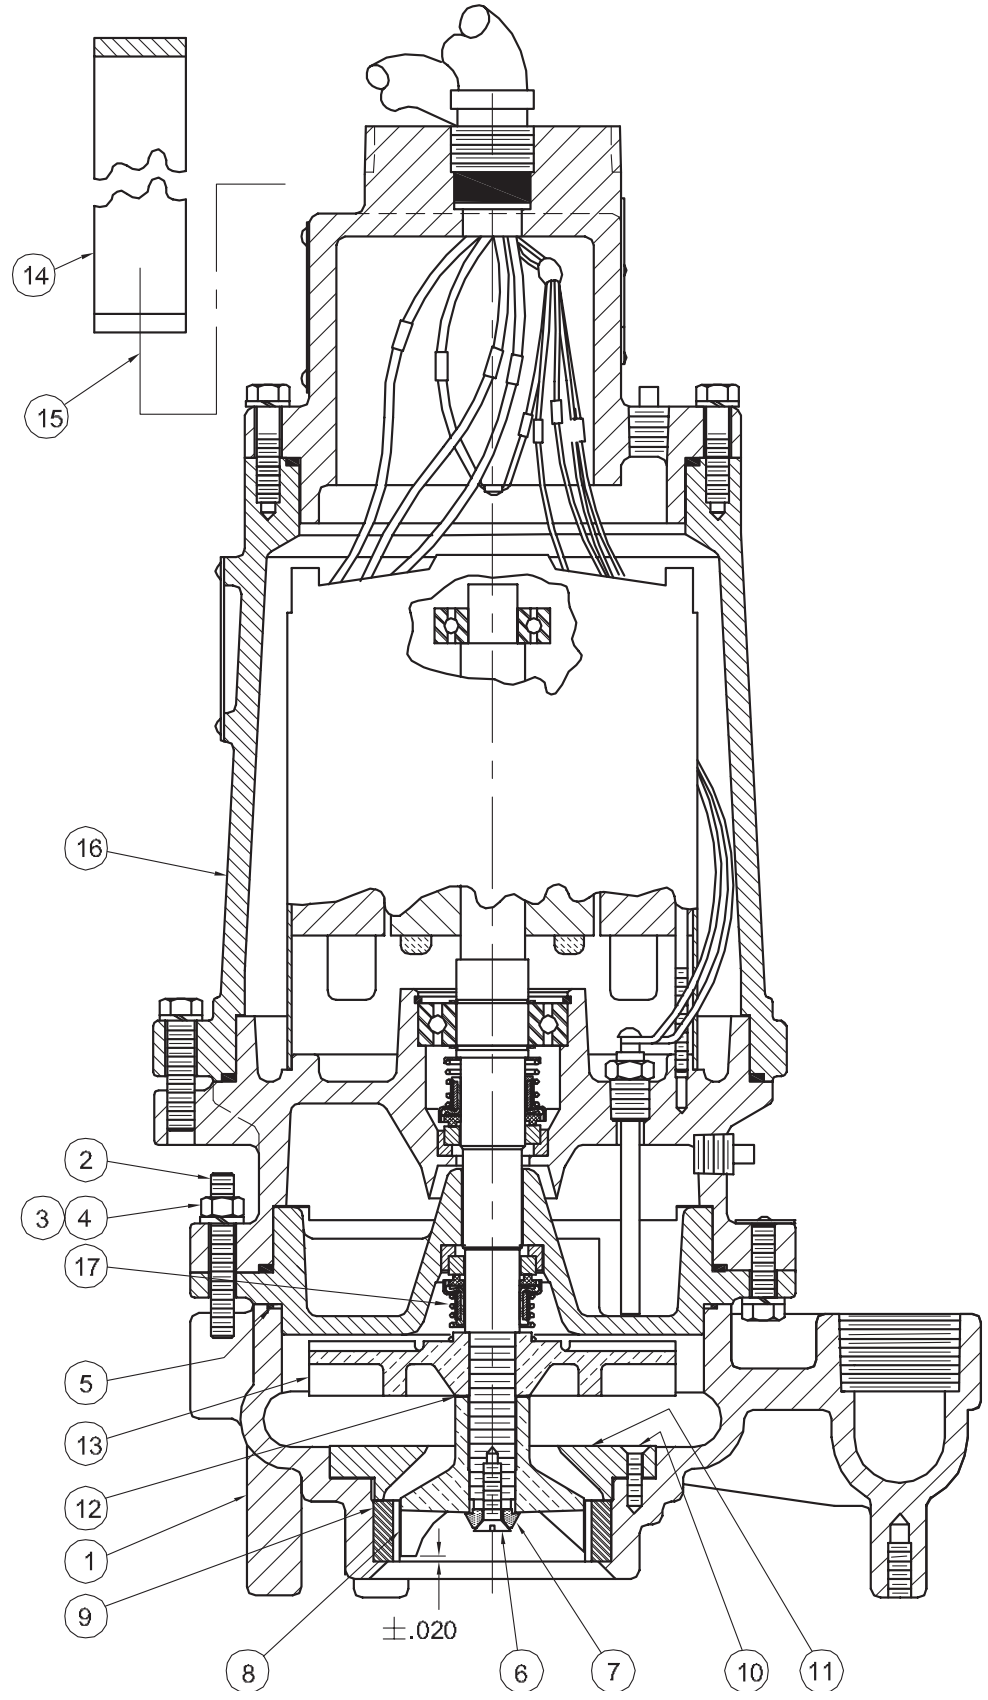

FIGURE 8
**NOTE:** All item numbers in ( ) refer to Figures 8 & 9 for 2HP and 10 & 11 for 3, 5 & 7.5HP Pumps.